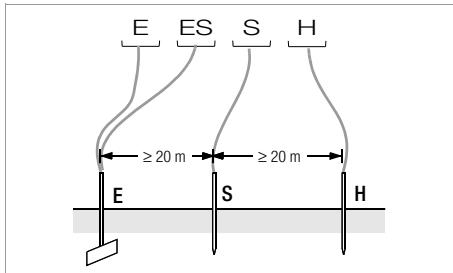

Figure 3 Measuring Earthing Resistance with a 4-Wire Test Setup
- ❖ Position the probe at least 20 meters, and the auxiliary earth electrode at least 40 meters from the earth electrode (see also Figure 3 on page 19).